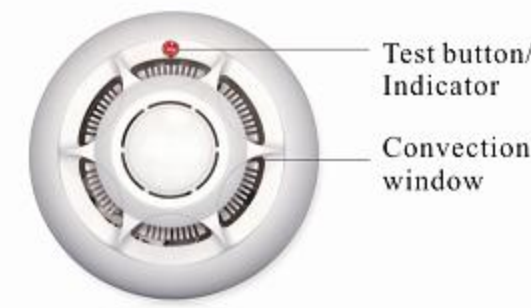

Fig3. Indicator LED and Test button
- Power the detector by power adapter or battery (3VDC) (Figure 3);